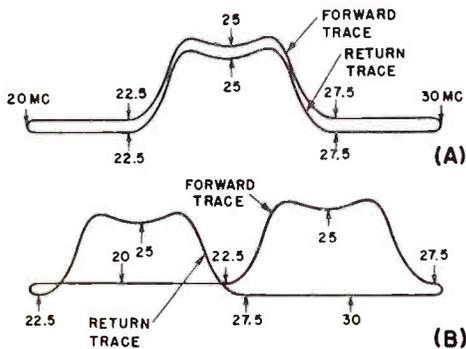

Fig. 6. Proper and improper sweep-generator phasing.
When a sweep generator is being used to produce a response curve on an oscilloscope screen, the sweeping action of the generator frequency and the sweeping action of the oscilloscope beam horizontally should be synchronized not only in frequency but also in phase. If the phase relation is not properly adjusted, then one end of the oscilloscope horizontal trace does not correspond to the lowest frequency swept through by the generator, and the other end does not correspond to the highest frequency, as should be the case. This is illustrated in Fig. 6. In this figure, it is assumed that a sweep generator is sweeping between 20 and 30 mc, and that it is being used to depict a response curve on an oscilloscope screen. To make the explanation clearer, the forward and return traces are shown separately (return trace below the forward trace) although in practice they usually coincide.
As shown in Fig. 6 there are actually two traces visible in ordinary sweep alignment or response curve observation. One is the forward trace, as the oscilloscope beam sweeps from left to right, and the other is the return trace, when the beam returns from the right to the left. If the phasing is properly adjusted, as shown at (A) of Fig. 6, the response curve traces coincide (the